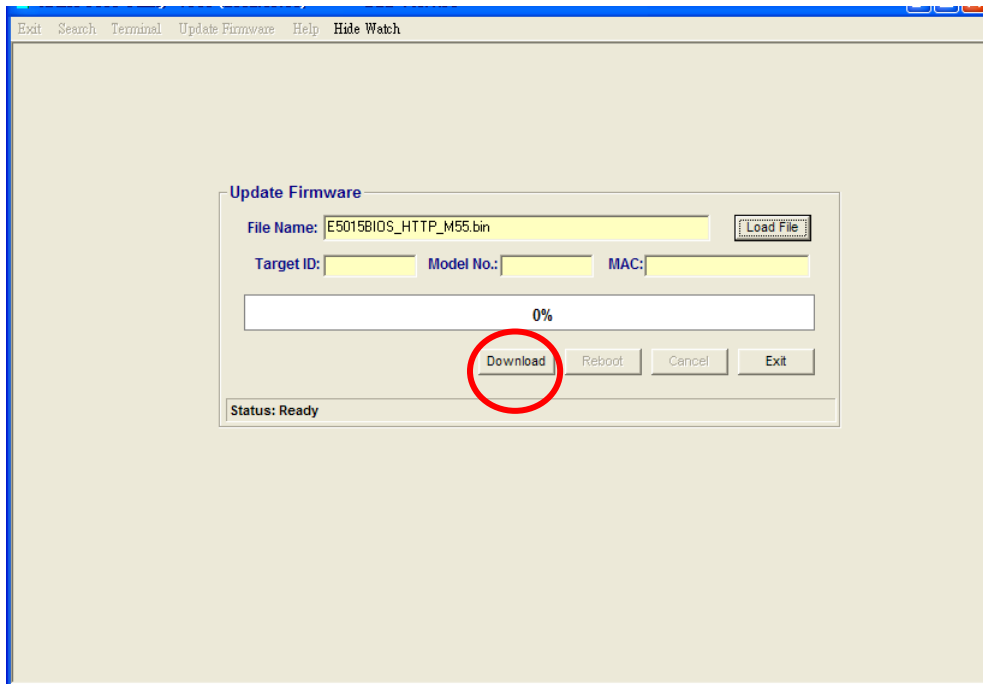

Figure -7
7. Click "Download" button to start to update firmware (see Figure -7)